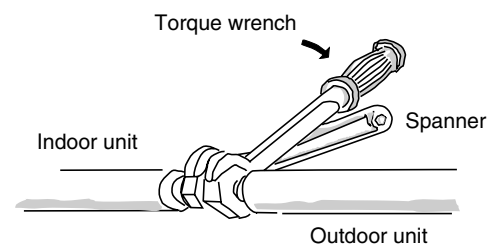

Fig. 7-6
- (1) Tightly connect the indoor-side refrigerant tubing extended from the wall with the outdoor-side tubing.
- (2) To fasten the flare nuts, apply specified torque as at right:
- When removing the flare nuts from the tubing connections, or when tightening them after connecting the tubing, be sure to use 2 monkey wrenches or spanners as shown. (Fig. 7-6)